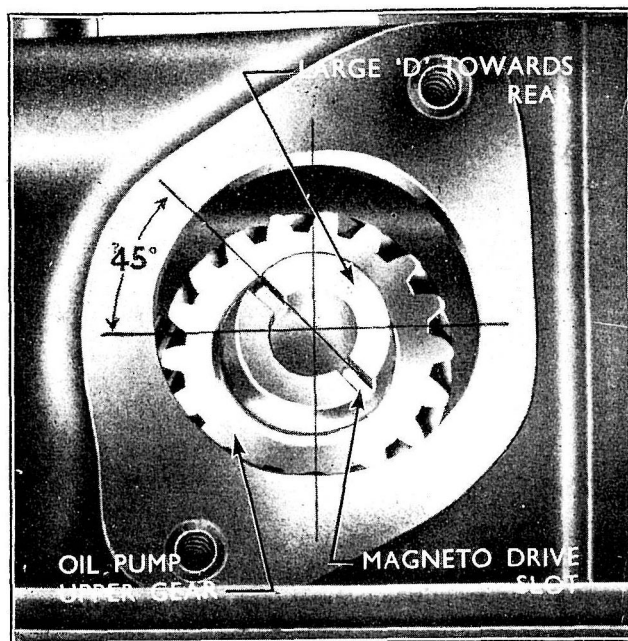

Fig. 266
- 2 Mount the adaptor housing and magneto retard plate in position (two screws and lockwashers) loosen the clamp bolt and fit the magneto (coil facing rear), ensuring that the offset tongue enters the offset slot in the shaft correctly. (See Fig. 266.)